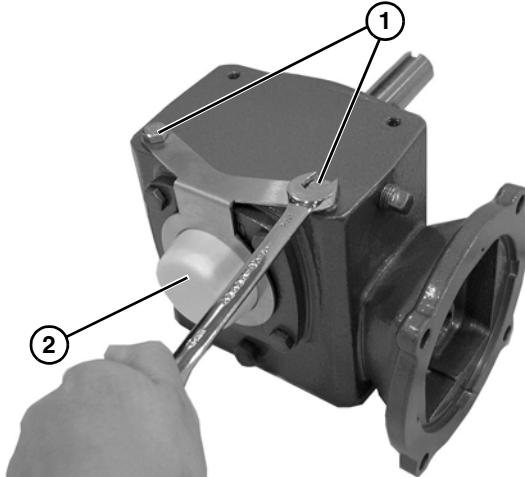

Figure 22
6. Remove two bolts (Figure 22, item 1) and gear reducer output shaft cover and bracket (Figure 22, item 2).